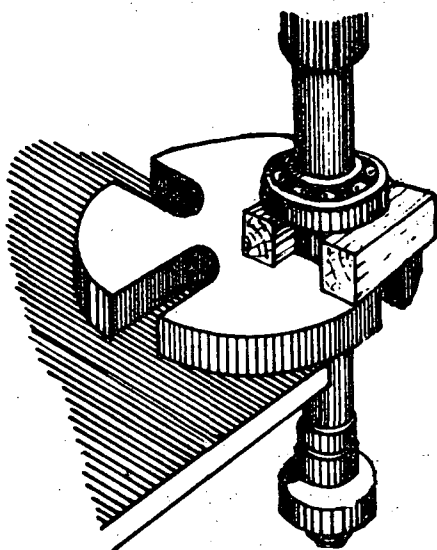

Fig. 1
1st Step - *Remove the bearing* (Figs. 1, 2 and 3): thus:
- a) In the press (Figs. 1 and 2), rest the inner ring on supports when removing a bearing from a shaft;